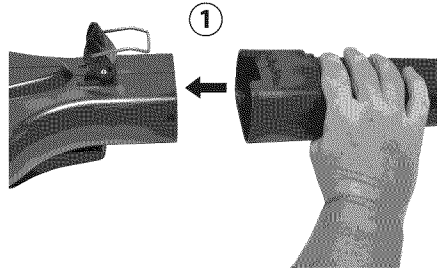
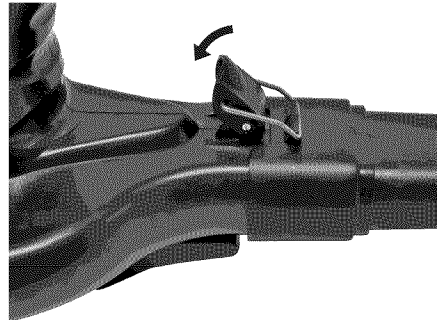

Figure 3-1: Sliding blower tube into place
Figure 3-2: Connect draw latch to blower tube
1. Slide the blower tube onto outlet on front of blower/vac housing (see Figure 3-1). Securely connect the draw latch to the blower tube (see Figure 3-2).